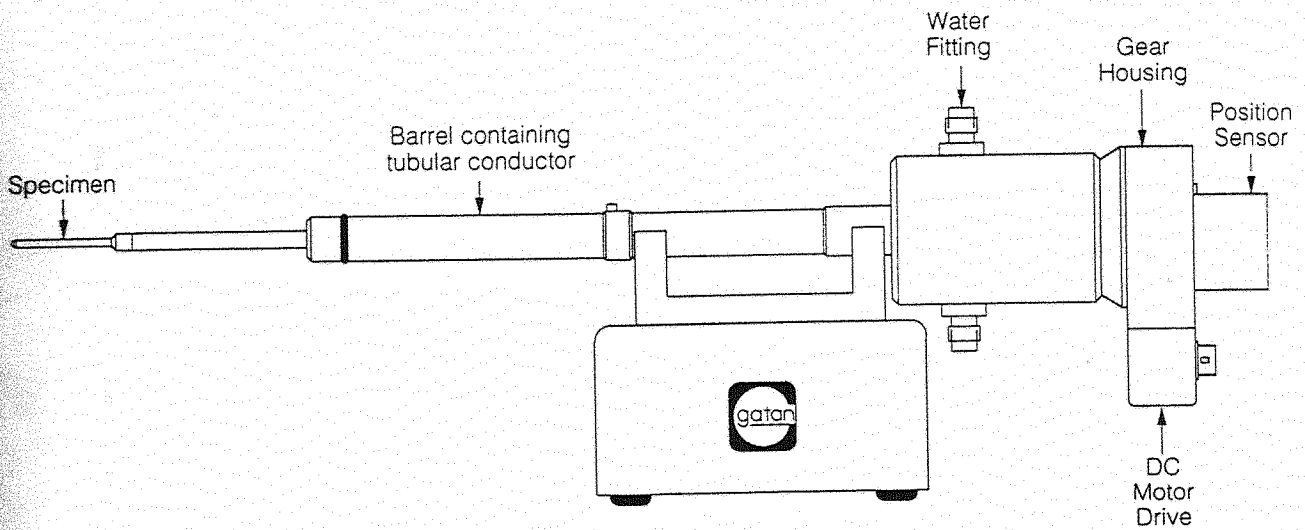

Figure 1. Model 672 Single tilt heating straining holder
2. Specimen holder (see figure 1)